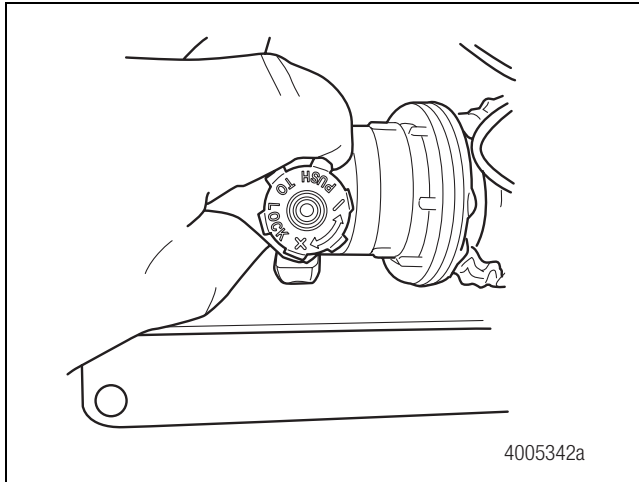

Figure 3.17
9. Check that the air pressure gauge reading is three psi (0.21 bar) higher than the pressure value marked on the door of the control box. Figure 3.17.